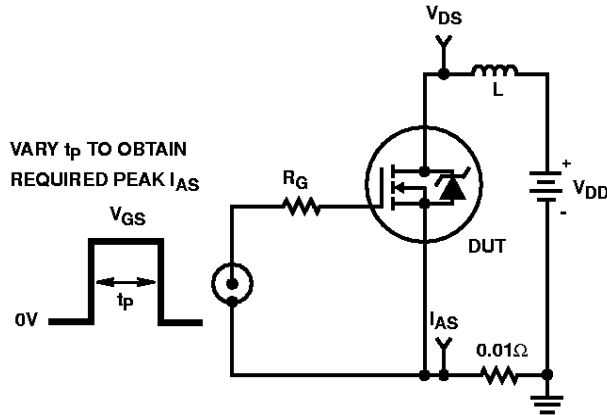

FIGURE 15. UNCLAMPED ENERGY TEST CIRCUIT
4.  $V_{DD} = 25\text{V}$ , starting  $T_J = 25^\circ\text{C}$ ,  $L = 160\mu\text{H}$ ,  $R_G = 50\Omega$ , peak  $I_{AS} = 31\text{A}$ . (Figures 15, 16).